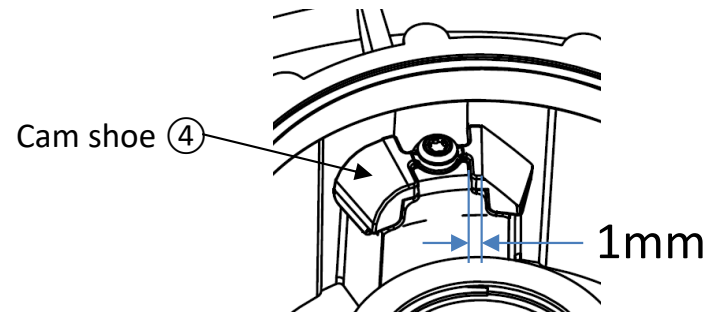

Figure 24
- If the cam shoes ④ are worn down to about 1 mm before making contact with the cam shoe support, they must be replaced (figure 24).